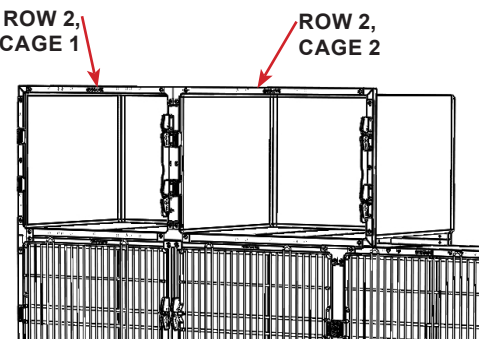

FIGURE 2.39 - Cage Installation
STEP 13: Lift and set the second cage into place on the platform. See FIGURE 2.39